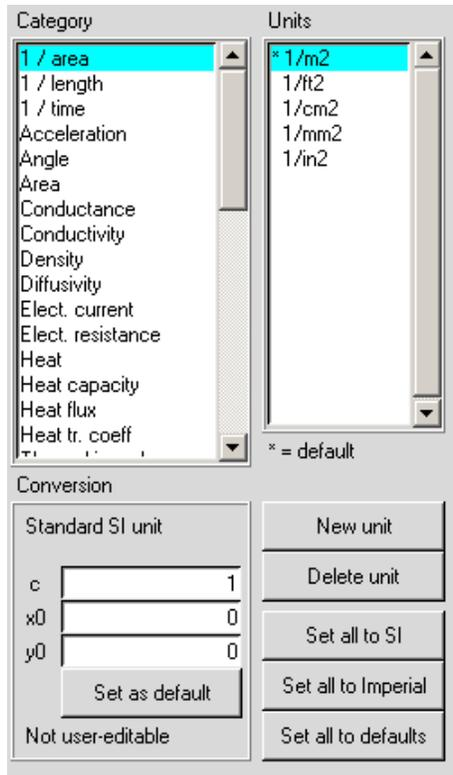

Figure 5.3.1: The Units Section of the Preferences Panel
If you would like a mixed unit system, or any unit system different from the default SI system supplied by Airpak, you can use the **Units** section of the **Preferences** panel (Figure 5.3.1) to select an available unit or specify your own unit name and conversion factor for each quantity.
Before customizing units for one or more quantities, you may want to view the current units. To view the built-in definitions for a particular category, select the category in the **Category** list in the **Units** section of the **Preferences** panel (Figure 5.3.1). The built-in definitions will be displayed in the **Units** list. For example, to view the built-in definitions for length, select **Length** in the **Category** list. The built-in definitions for length are displayed in the **Units** list: m, ft, cm, mm, microns, in, mil, and Cu-oz/ft².
1. Select the quantity in the **Category** list (they are arranged in alphabetical order) in the **Units** section of the **Preferences** panel (Figure 5.3.1).
You would then click **Set as default** to make inches the default unit of length for your model (see Figure 5.3.1).
i It is not possible to edit the **Conversion** factors for units that are predefined in Airpak; these units are marked as **Not user-editable** under **Conversion** (see Figure 5.3.1).
1. In the **Units** section of the **Preferences** panel (Figure 5.3.1), select the quantity in the **Category** list.
1. In the Units section of the Preferences panel (Figure 5.3.1), select the quantity in the Category list.